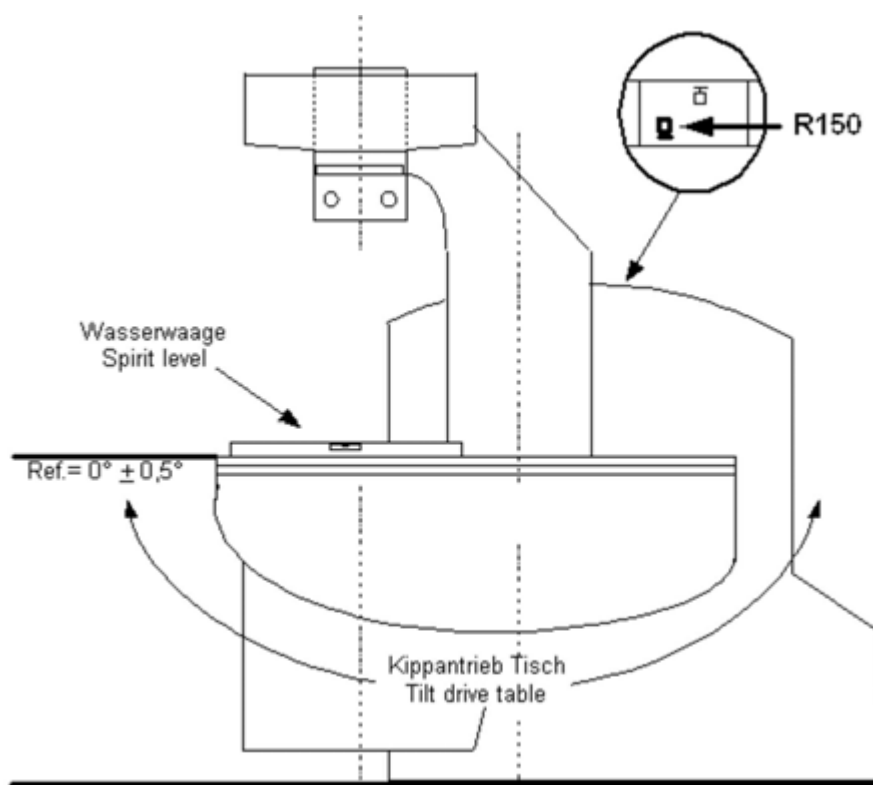

Fig. 28: Adjustment - table tilt
- Using the service keys, move the tilt drive into the reference position (Fig. 28 / p. 46).
Access: Through lifting base (see arrows (Fig. 28 / p. 46)).